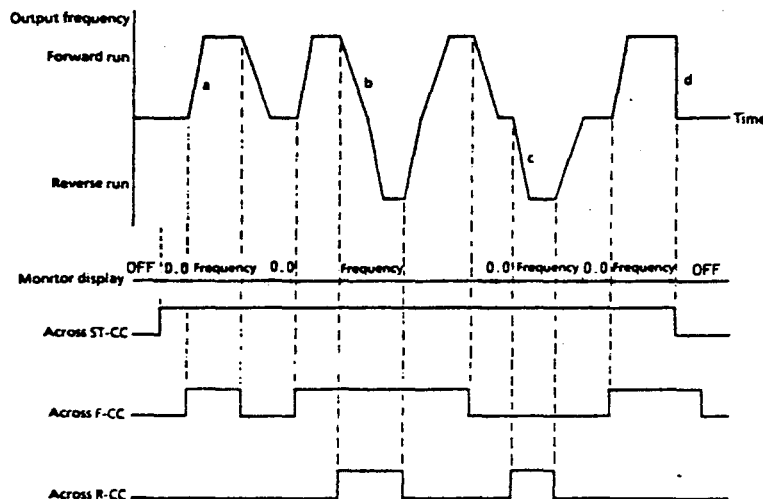

Figure 3.12 Timing chart for forward/reverse run operation
- 4) Fig. 3.12 shows a timing chart for an example forward/reverse run operation.
- 5) A forward run operation will begin, as shown by "a" in Figure 3.12.